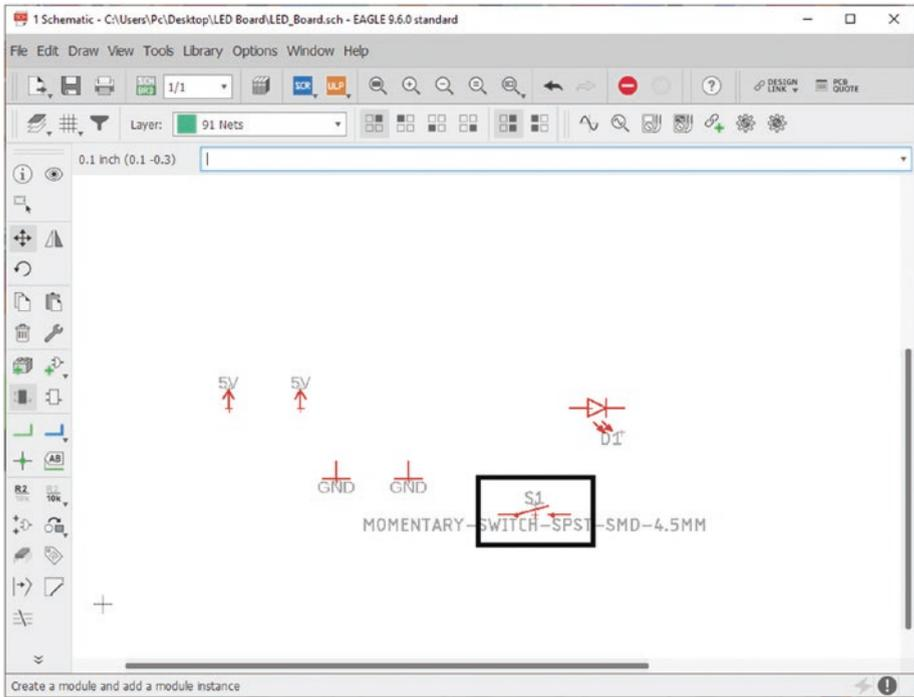

Figure 5-29. Add the Momentary button to the schematic window
16. Right-click three times on the schematic window to orient the switch correctly and then place the switch symbol. See Figure 5-29.